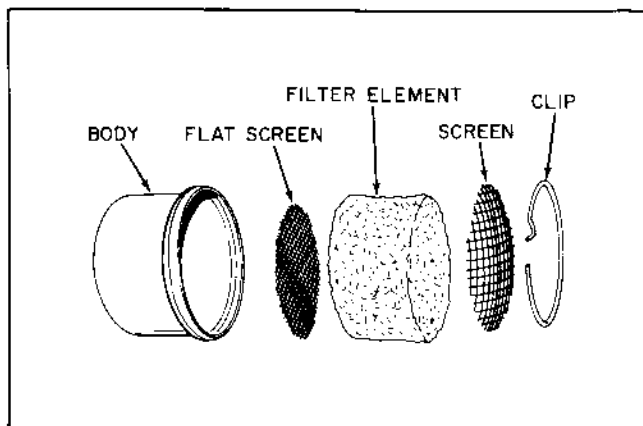

Figure 1-3
- (1) Remove the retainer cover or ring (Fig. 1-3) from the filter body and remove the screens and the aluminum foil filter element.
- (2) Dip the aluminum foil filter in solvent. Flush out all dirt particles.
- (3) Shake out filter thoroughly to remove all solvent, then dip filter element in oil. Allow oil to drain from filter. Clean screens and filter body.
- (4) The concave screen and retainer cover or ring are not used on later models. They are replaced with a clip which rolls into the groove in the lip of the body.